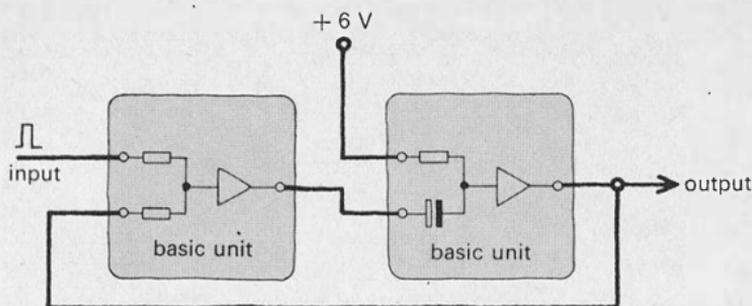

Figure 45
**19** What happens at the output of the system shown in figure 45 if a short, sharp positive going pulse arrives at the input?